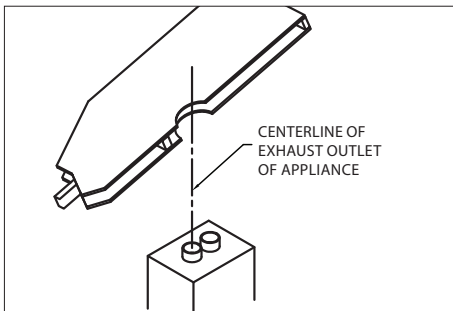

Figure 16
1. Locate penetration. (**Fig.16**)